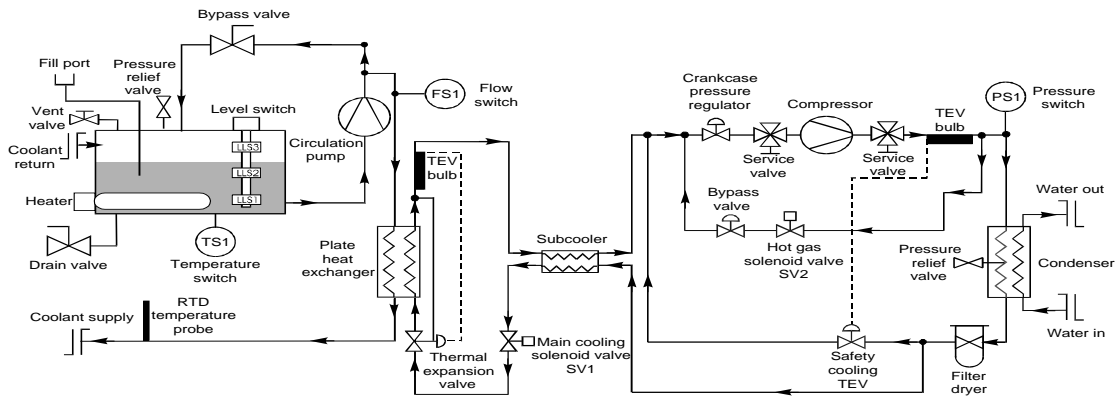

Figure 3- Refrigeration and coolant circuits
* See Figure 3 on page 10.
(see figure 3 above)